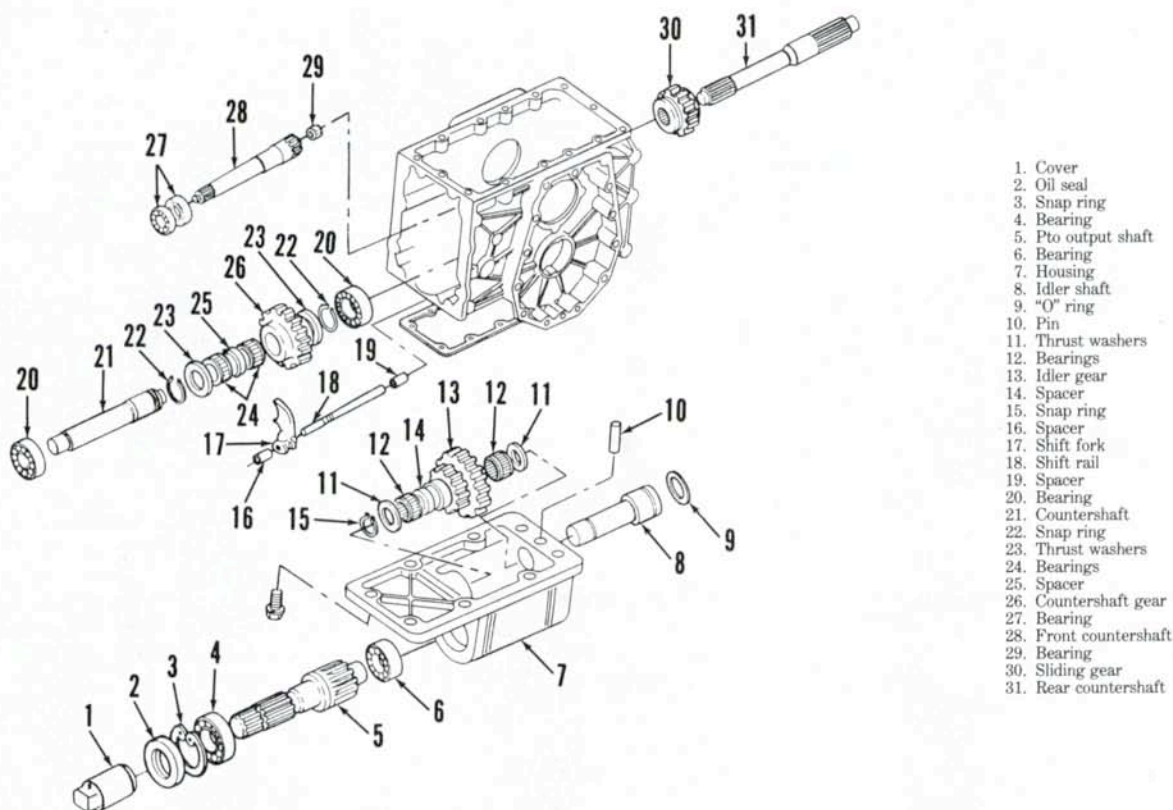

Fig. 242—Exploded view of mid-mount pto components. On models with front wheel drive, the front wheel drive shaft replaces the countershaft (21).
To service mid-mount pto gearbox, first unbolt and remove housing (7—Fig. 242) from axle center housing. Drive retaining pin (10) out of idler shaft (8). Remove snap ring (15), then withdraw idler shaft rearward from housing and remove idler gear (13), then pull output shaft and bearings from housing.